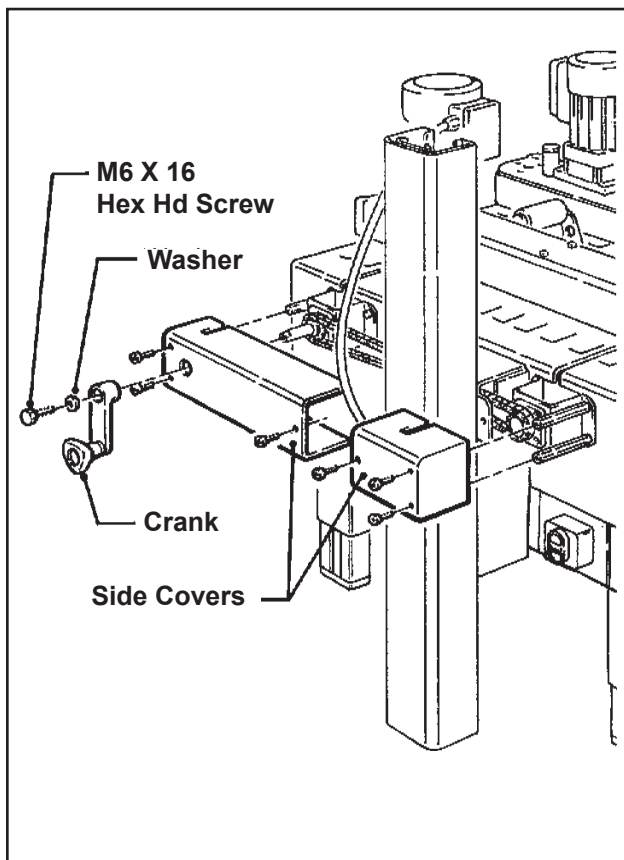

Figure 13-12 – Crank/Chain Guards
4. Remove M6 x 16 hex hd screw, special washer and drive belt width adjustment crank - **Figure 13-12.**
5. Remove side covers (2) from each side of machine bed - **Figure 13-12.**